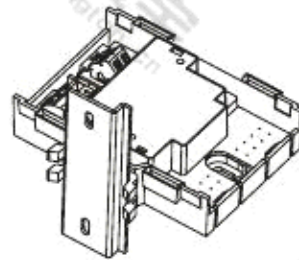

Fig. 2
- on a top hat rail (Fig. 2)
2. Press the module and the installation feet against the top hat rail until the feet snap in (Fig. 2).